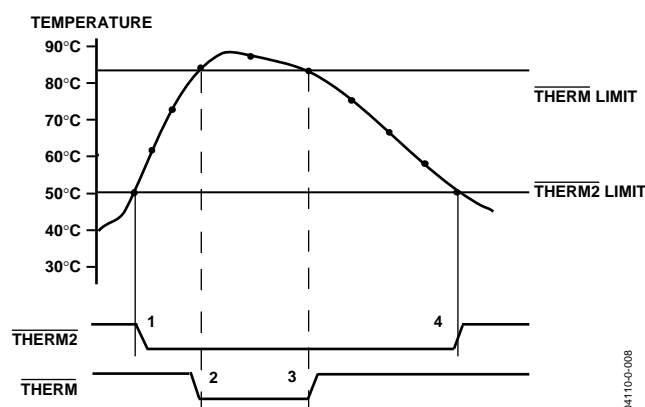

Figure 22. Operation of the $\overline{\text{THERM}}$ and $\overline{\text{THERM2}}$ Interrupts
Figure 22 shows how $\overline{\text{THERM}}$ and $\overline{\text{THERM2}}$ might operate together to implement two methods of cooling the system. In this example, the $\overline{\text{THERM2}}$ limits are set lower than the $\overline{\text{THERM}}$ limits. The $\overline{\text{THERM2}}$ output could be used to turn on a fan. If the temperature continues to rise and exceeds the $\overline{\text{THERM}}$ limits, the $\overline{\text{THERM}}$ output could provide additional cooling by throttling the CPU.
3. The $\overline{\text{THERM}}$ output deasserts (goes high) when the temperature falls to $\overline{\text{THERM}}$ limit minus hysteresis. No hysteresis value is shown in Figure 22.